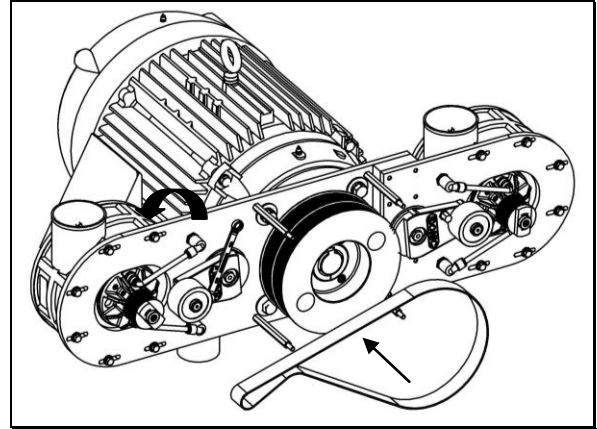

Figure 20 – Reinstall Belt
8. Using the 9/16 inch box-end wrench, rotate the belt tensioner counter clockwise (CCW). At the same time wrap the belt around the blower pulley, then along the right side of the idler pulley, and finally around the motor pulley. (See Figure 20)